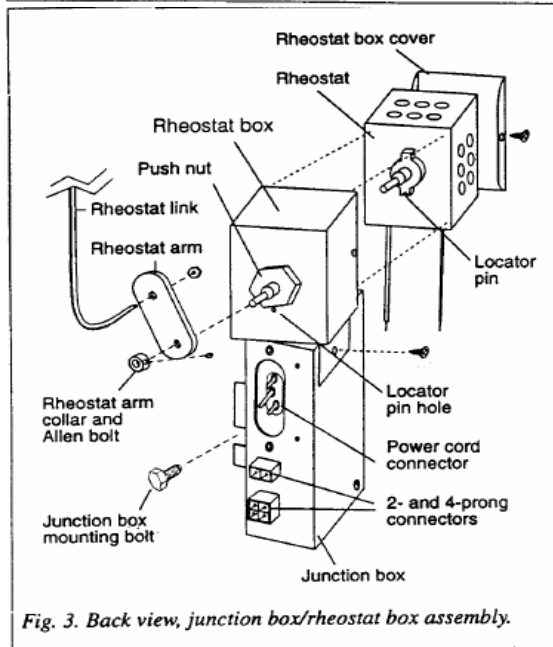

Fig. 3. Back view, junction box/rheostat box assembly.
5. (*early units*) Remove two sheet metal screws holding the rheostat cover to the rheostat box. Remove the cover. See Fig.3.
NOTE THE POSITION OF THE RHEOSTAT; install it as shown in Fig.3. Position the rheostat with the locator pin at the base of the shaft toward the bottom of the rheostat box, so it engages the hole in the back side of the rheostat box.
3. (*all units*) Use a $\frac{3}{32}$ " Allen wrench to loosen the retaining collar on the rheostat shaft. Remove the collar and the arm. See Fig. 3.
4. (*all units*) Remove the push nut from the rheostat shaft. See Fig. 3.